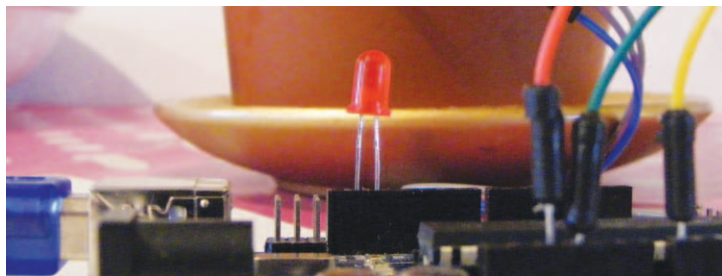

FIGURE 5-3:
3. Connect an LED directly to the Arduino with the shorter, negative leg in GND and the longer, positive leg in Arduino pin 13, as shown in Figure 5-3.